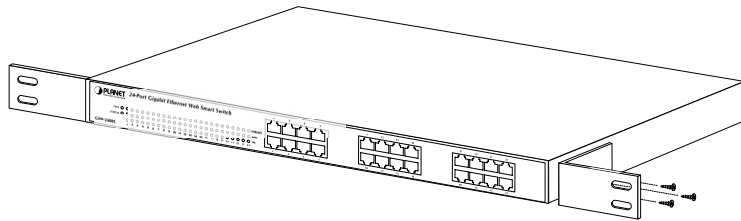

Figure 2-3 Attaching the brackets to the GSW-2401/GSW-1601
Step2: Attach a rack-mount bracket to each side of the Switch with supplied screws attached to the package. Figure 2-3 shows how to attach brackets to one side of the Switch.